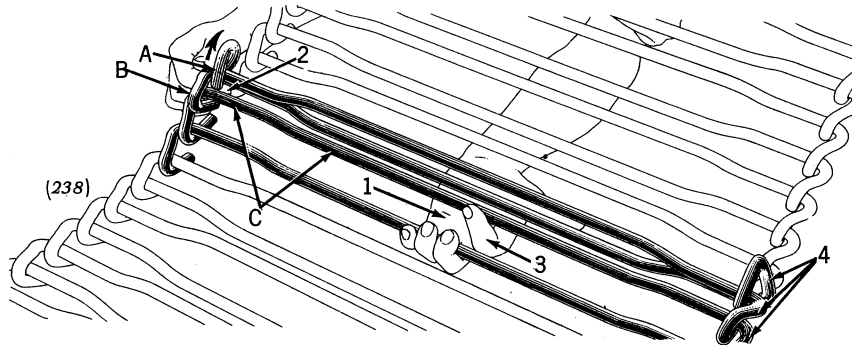

Figure 11
1. (Figure 11) Grasp four links with the **LEFT**-hand and draw them together to obtain all possible slack.
2. (Figure 11) With the forefinger of the **RIGHT**-hand push link "A" up and back in the direction of the arrow.
3. (Figure 11) Using the forefinger of the **LEFT**-hand push link "C" down and back between the openings in links at "A" and "B".
4. (Figure 11) When link "C" is disconnected, maintain the relative position of the links by holding the links with the **RIGHT**-hand instead of the **LEFT**-hand and then proceed with the **LEFT**-hand to disconnect the other ends of the links at "4", following the same procedure as in steps "2" and "3" above.